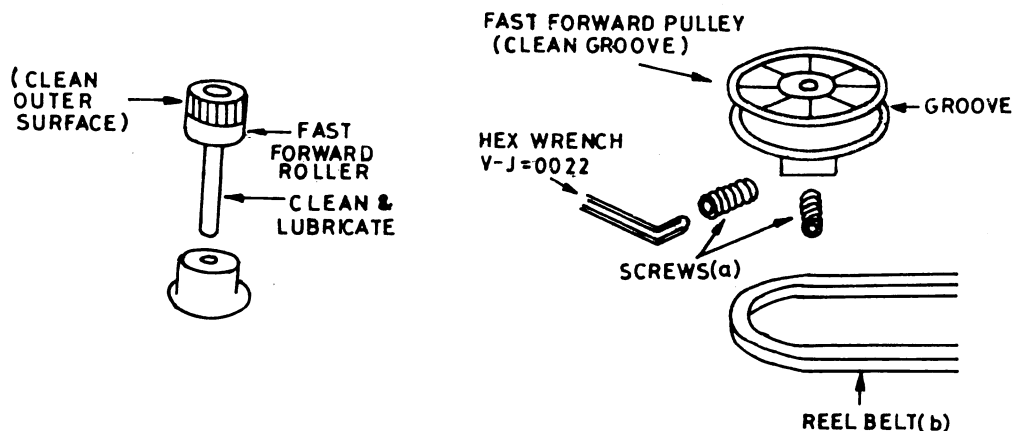

Fig. 10.6 Fast forward roller cleaning and lubrication
3. Disengage the reel belt (b) from the fast-forward pulley as shown in fig 10.6